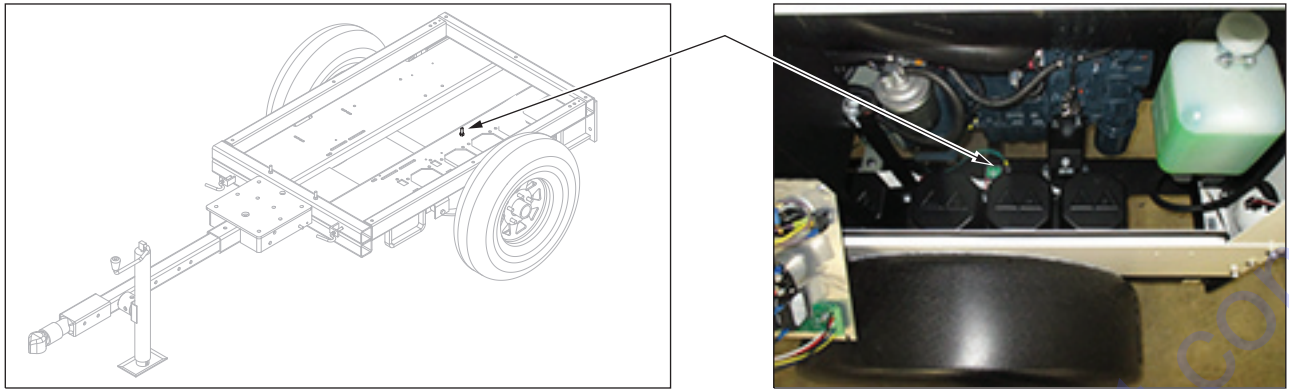

Figure 12 - Chassis Ground Stud Location
5. See *Figure 12*. Disconnect both wires from ground stud in unit chassis. Retain hardware.
- Ground wire: Route to ground stud in unit chassis (Figure 12)
- c. Route black/white wire with blue ring terminal to ground stud in unit chassis (Figure 12).